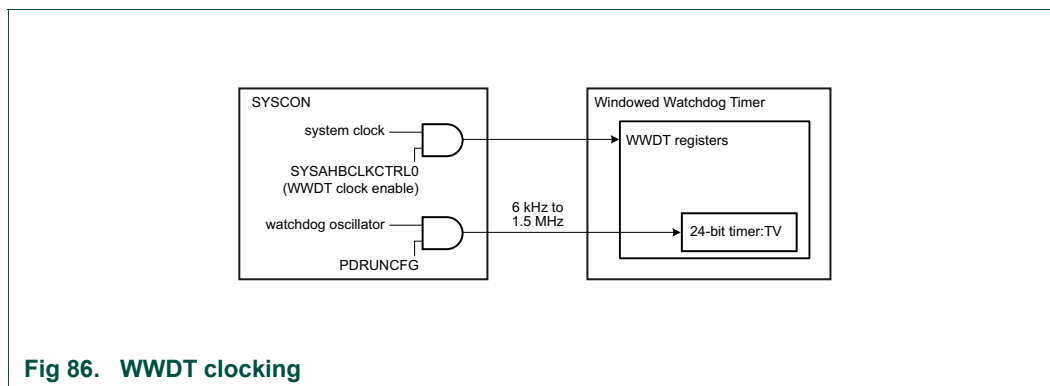

Fig 86. WWDT clocking
- The watchdog clock (WDCLK) is generated from always on FRO\_1MHz clock, see Figure 86 that can be divided by WDT clock divider register value in SYSCON module. See Table 105. The accuracy of this clock is limited to +/- 15% over temperature, voltage, and silicon processing variations. To determine the actual watchdog frequency, use the frequency measure block. See Chapter 11 “LPC55S1x/LPC551x Analog control”.